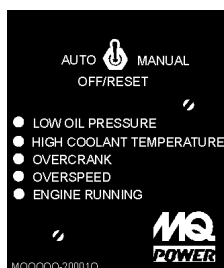

Figure 10.
9. **Pre-Heat Button** – Press hold this button until the preheat lamp is lit (ON).
10. **MPEC – Microprocessor Engine Control Module** – (MPEC) has a vertical row of status LED's (Figure 10), that when lit, indicate that an engine malfunction (fault), has been detected. When a fault has been detected the MPEC will evaluate the fault and all major faults will shutdown the generator.